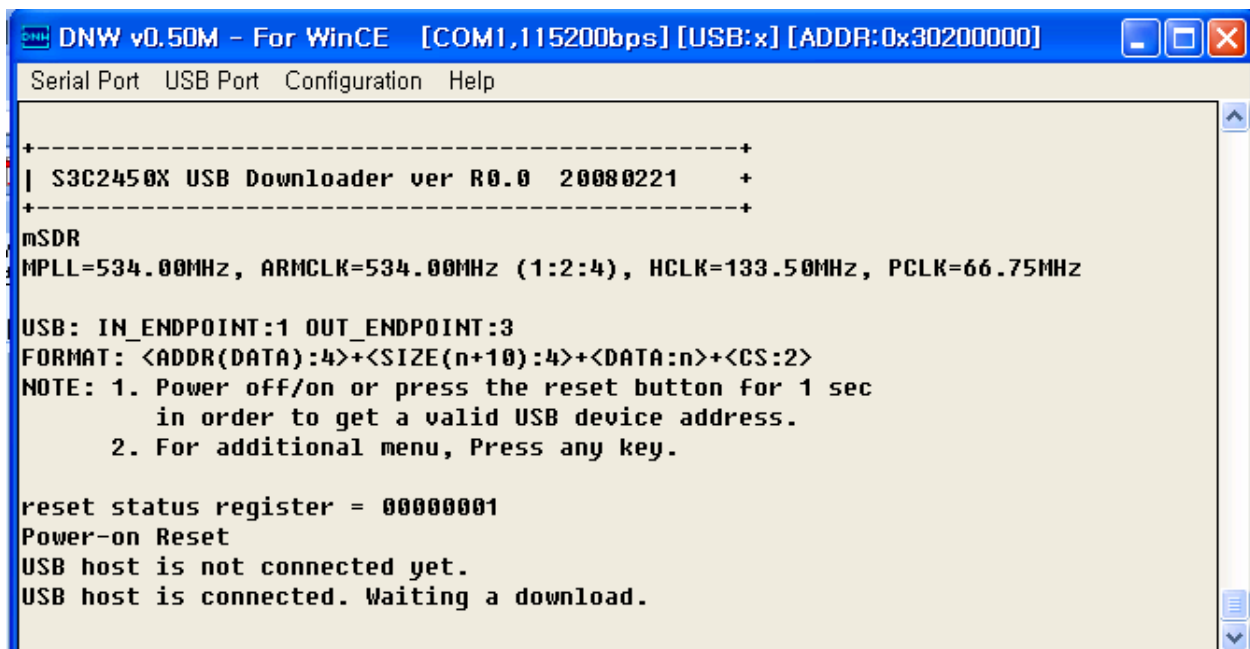

Figure 5-19 DNW Window after Board Power ON
8. On the Serial Port menu, click Connect. Switch ON the reference board. The DNW window appears as shown in figure 5-19.